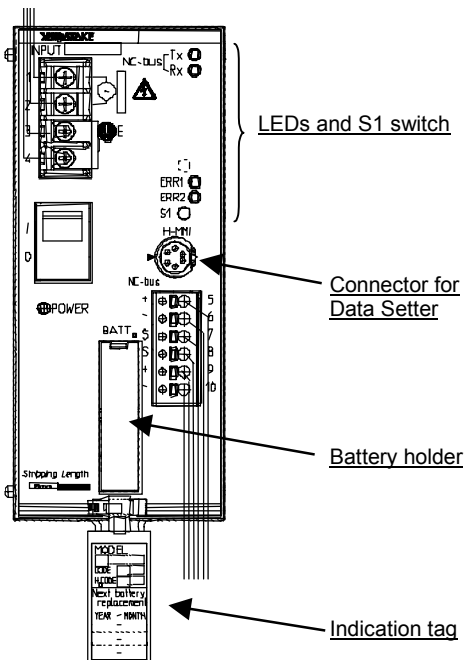

Figure 8. Connected wires in position
- * Install wiring properly so as not to hide the underlined parts shown in Fig. 8.